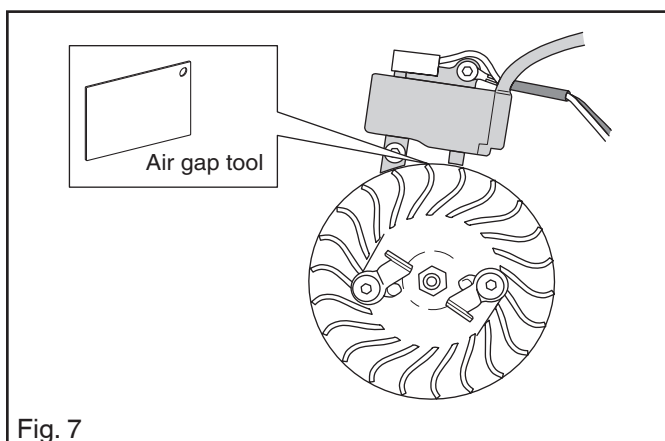

Fig. 7
6. Turn the flywheel so that the magnets are in line with the ignition module. Fit the the plastic feeler gauge (502 51 34- 02). Loosen the screws that hold the ignition module. Set a distance of 0.3 ± 0.1 mm, between the ignition module and magnet. Tighten the screws. See figure 7.